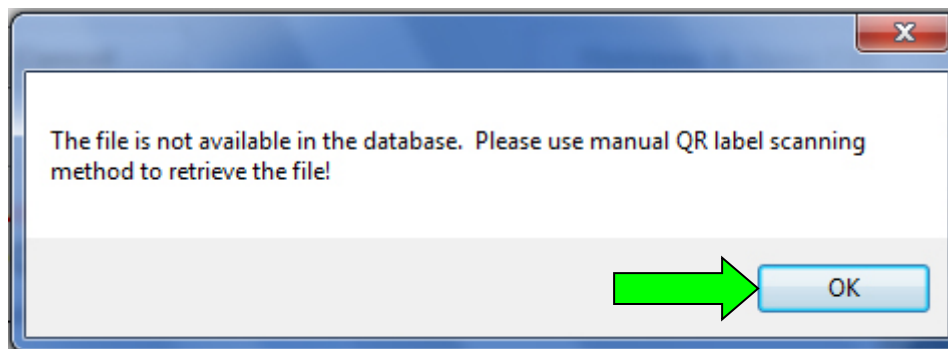

Figure 31
- If the pop-up shown in Figure 31 displays, select **OK** and continue to step 55, below.